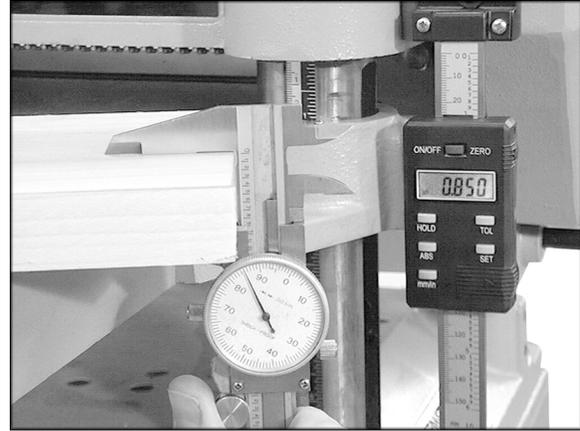

Figure 42
4. Measure the planed board carefully with calipers. (Our example in Fig. 42 shows the calipers reading .850”). This measurement
5. Input the measurement on the calipers into the digital display. Refer to the instructions above involving the SET button function to input this number into your digital display. (Figure 42 shows the .850” measurement now set in the digital display.)